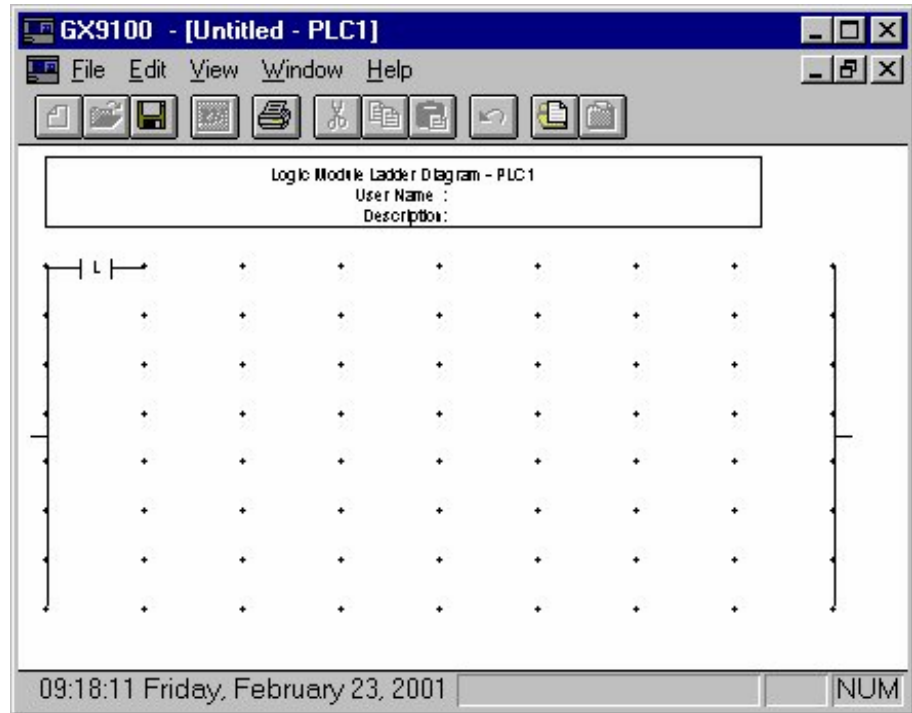

Figure 5-3: Adding the LOAD Symbol
2. Select **LOAD** as the first instruction and click **OK**. The **LOAD** symbol appears within the ladder diagram (Figure 5-3).